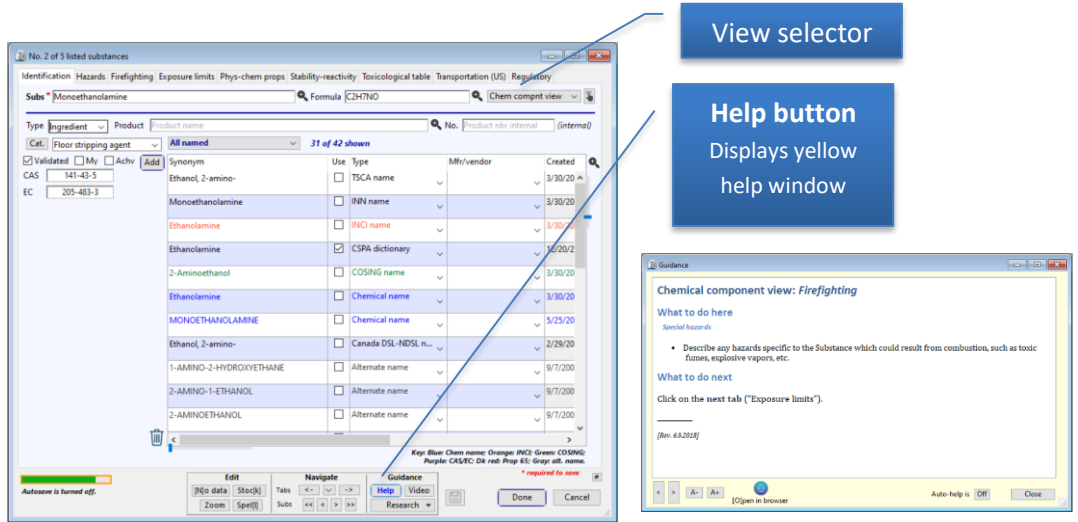

Fig 6. Chem compnt view of Monoethanolamine (Identification tab)
1) Select the **Identification** tab (see Fig 6.)